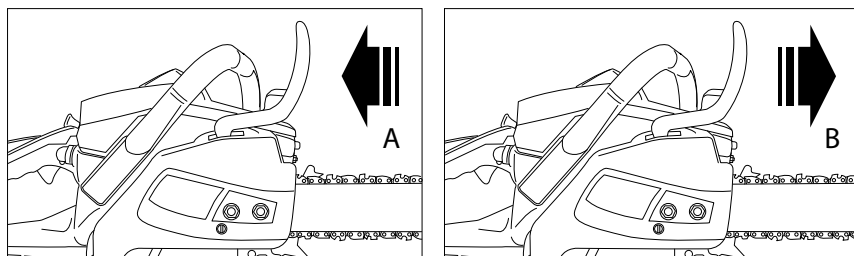

Fig. 12
1. The brake is off (the chain can move) when the brake shield is pulled back (A) (fig. 12).
2. The brake is on (the chain cannot move) with the brake shield pointing forward (B). In this case, the chain should not move on the bar (fig. 12).